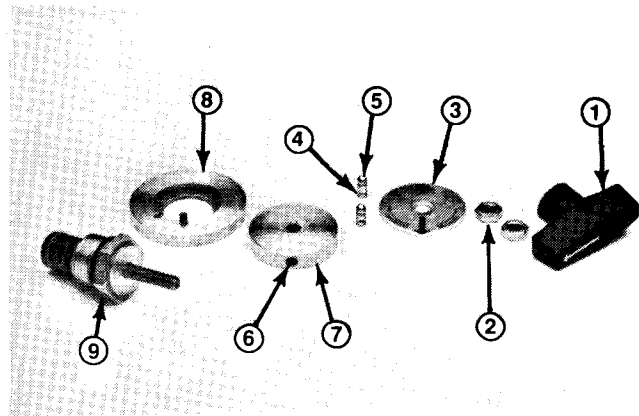

Figure 86
2. Loosen jam nut under knob. Unscrew knob and both jam nuts (Fig. 86).
3. Remove indicator plate and two (2) springs. Loosen set screw and unscrew detent plate. Remove two (2) balls from detent plate. Remove locating plate.